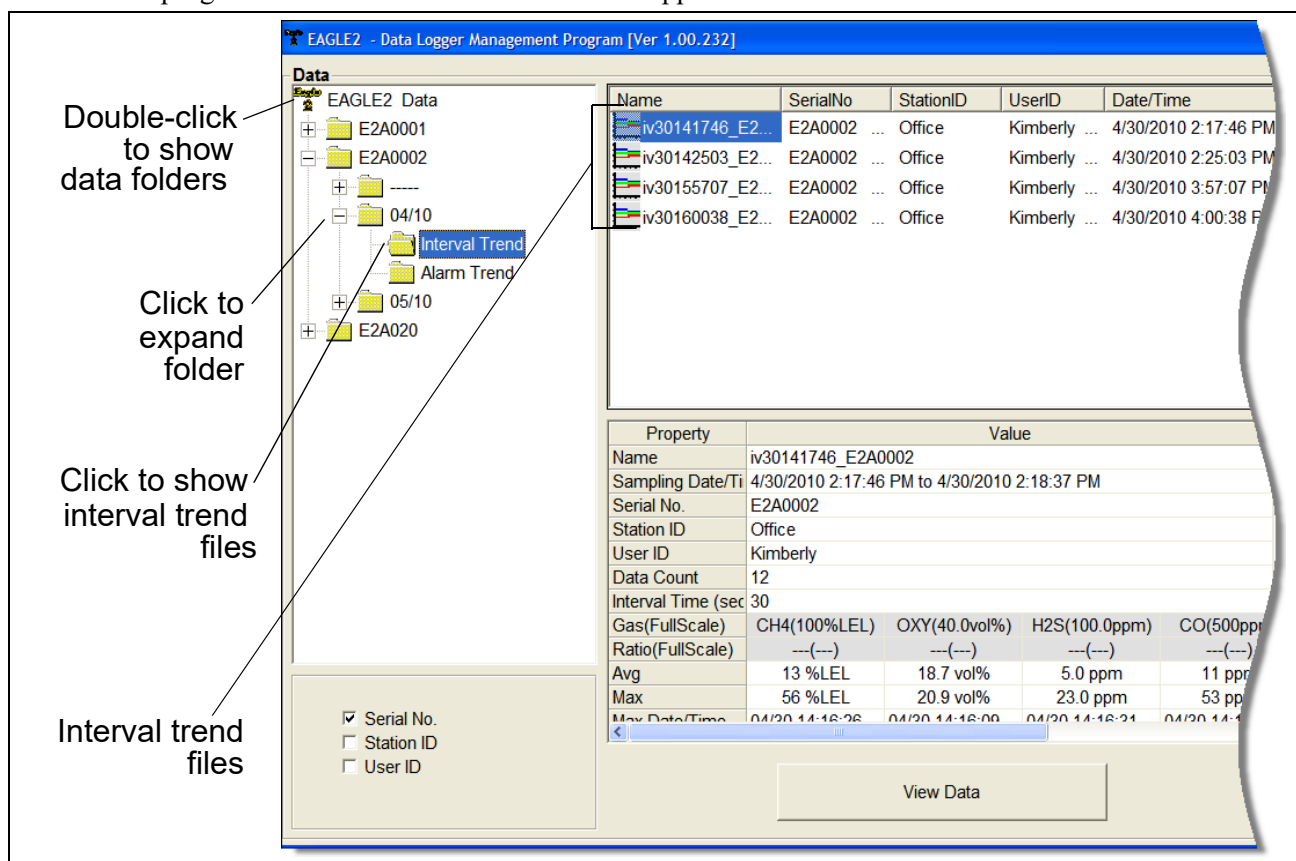

Figure 20: Data Window - Selecting Interval Trend Data Files
- If you click the **Summary** button, the Data Window will split into two frames, one above the other, with the data table in the lower frame and the summary information shown in the upper frame. The summary information is the same as the one shown in the lower right frame in Figure 20. To return to the one frame format, click **Summary** again.